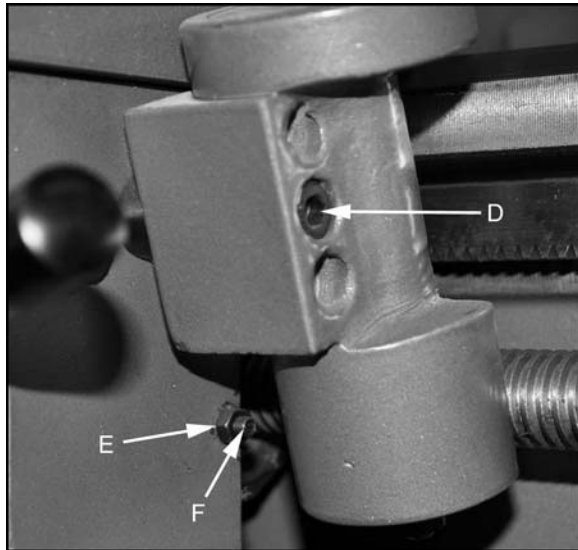

Figure 21
1. Remove the thread dial assembly by unscrewing the screw (D, Fig. 21).
2. Loosen three hex nuts (E, Fig. 21) found on the side of apron, and turn three set screws (F, Fig. 21) equally with a hex wrench.